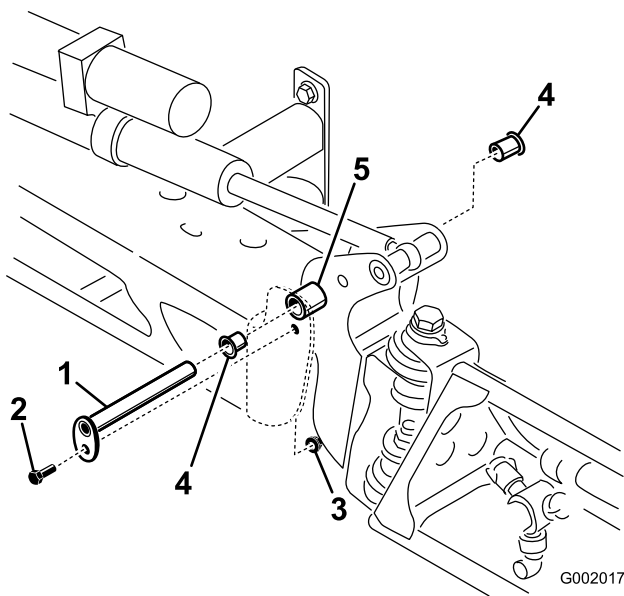

Figure 54
3. With the weight of the boom supported, remove the bolt and nut securing the pivot pin to the boom assembly (Figure 54). Remove the pivot pin.
- Remove and inspect the nylon bushings from the front and back sides of the pivot bracket (Figure 54). Replace any damaged bushings.
- Install the boom and pivot bracket assembly into the center frame, aligning the openings (Figure 54).